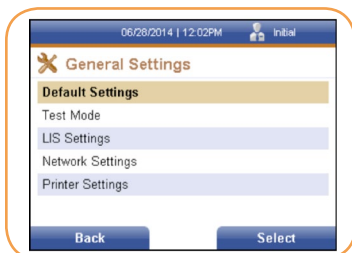

FIGURE 18
2. Press the left soft key to return to the General Settings screen (Figure 18).